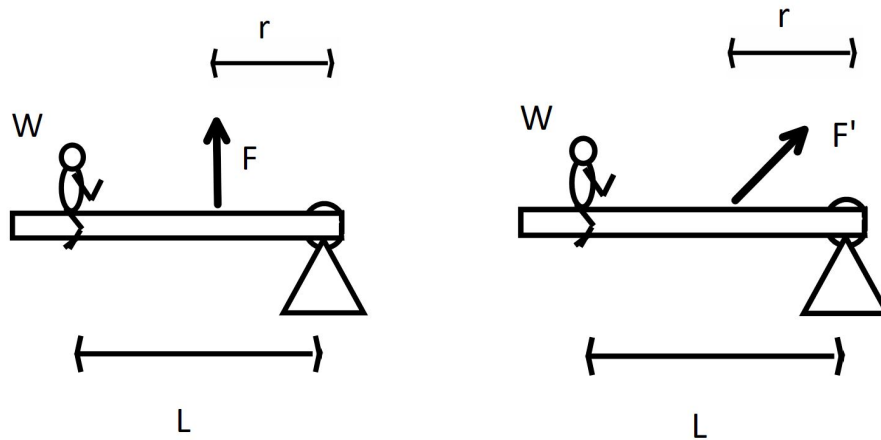

Figure 2: Diagrams for warm up problems 3 (left) and 4 (right).
3. Consider now a slightly modified seesaw setup (pictured in figure 2), with a child of weight  $W$  sitting a distance  $L$  to the left of the pivot. This time, the seesaw is balanced by the pull from a vertical rope, attached at a distance  $r$  to the *left* of the pivot. Assume that  $r < L$ , meaning the rope is attached between the child and the pivot.
4. Finally, imagine that the rope balancing the seesaw is at an angle, rather than being vertical (pictured in figure 2). Does the magnitude of this new force  $F'$  need to be larger, smaller, or the same size as the previous (vertical) force  $F$  in order to balance the seesaw?